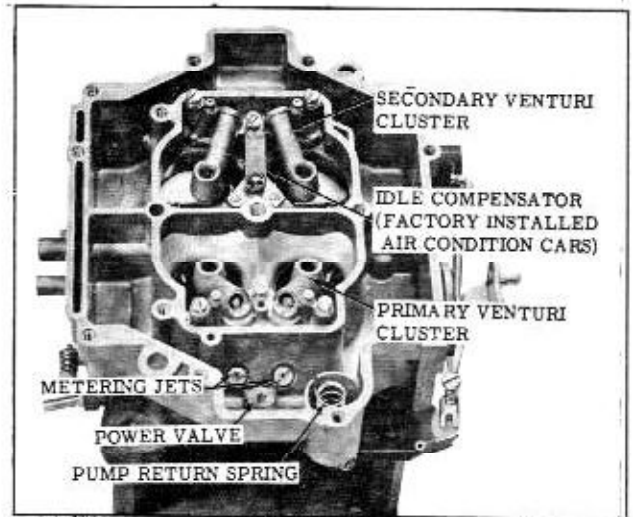

Fig. 8-115 Float Bowl Assembly
6. Install the power valve and gasket, and the two primary main metering jets. (Fig. 8-115)